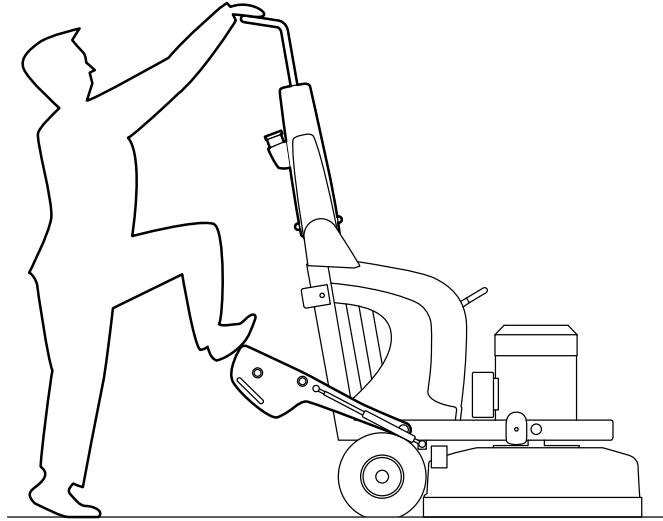

Figure 4-6 Foot on weight
2. Fold the weights back and place a foot against one of the weights, see Figure 4-6 on page 20.